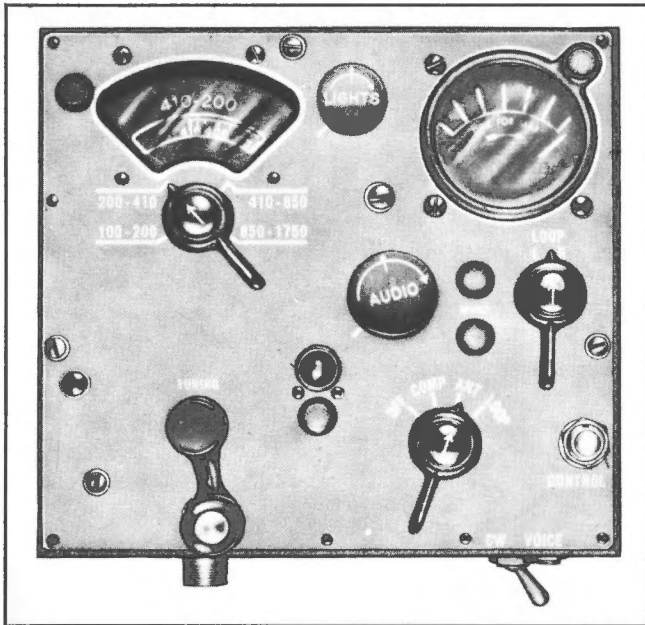

Figure 3-1. Radio Control Box ★C-4/ARN-7—
a. TURNING THE EQUIPMENT ON. (See fig. 3-1.)—Set the function switch on one of the Radio Control boxes ★C-4/ARN-7 to the "COMP.," the "ANT.," or the "LOOP" position. If the green light does not come on, push in the "CONTROL" switch of the control box. The green light indicates that this box has control of the equipment.